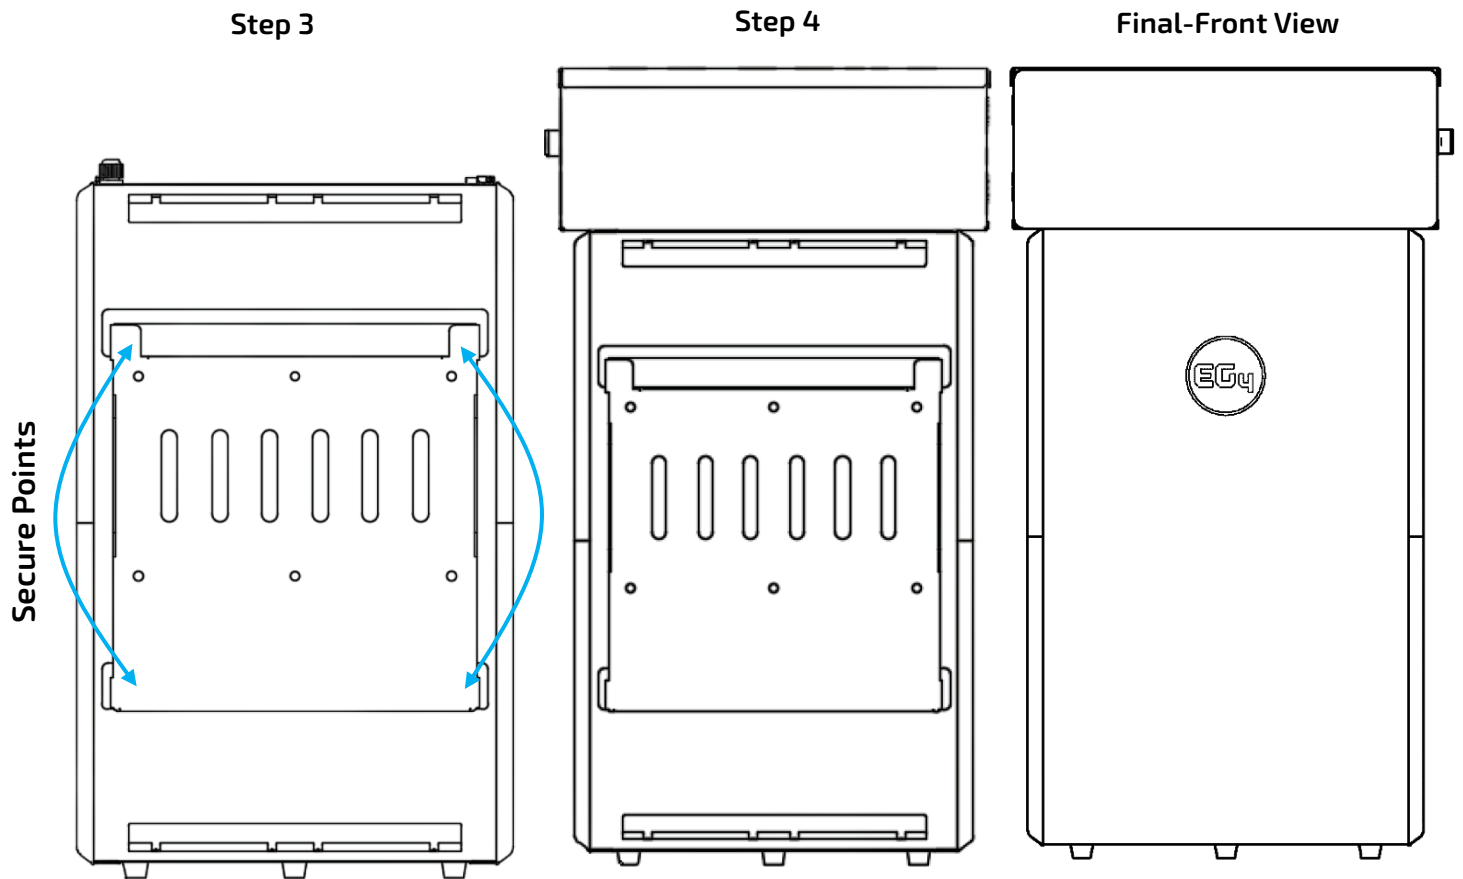

Figure 12 – WallMount Installation with Conduit Box Steps 3, 4 & 5
3. Attach the WallMount battery pack to the mounting bracket. To accomplish this, lift the battery up and hook the flange on the back of the battery into the flange on the front of the mounting bracket. Secure the battery to the mounting bracket with the 4 included side screws (see Figure 12)